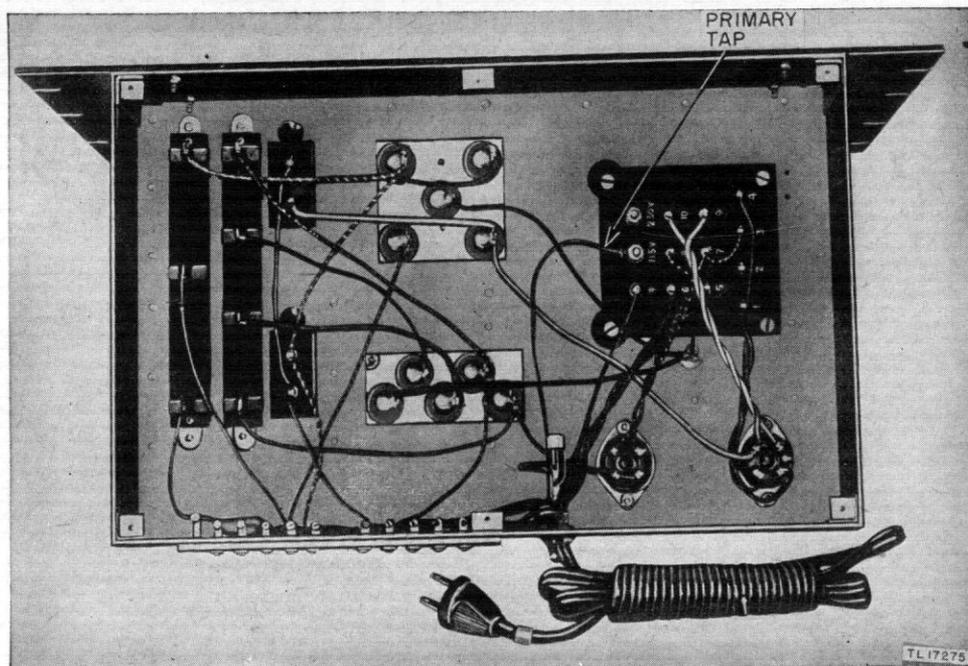

Figure 12. Bottom view of power supply unit, showing primary tap connection.
*e. A-C INPUT.* Before plugging the power cord into the a-c power line, remove the bottom plate from the power supply unit to see that the primary tap is properly connected for the particular a-c voltage available. This primary tap connects the fuse holder to one of the screw terminals on the power transformer, and is marked PRIMARY TAP in figure 12. Connect the primary tap to the screw terminal most closely agreeing with the available a-c line voltage and replace the bottom cover plate.
(1) Power Supply Unit RA-74-(\*) has eight